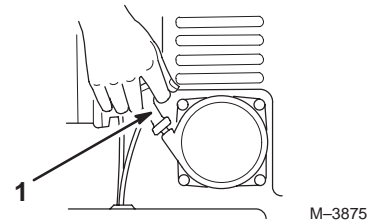

Figure 10
5. Pull the starter grip briskly to start the engine (Fig. 10).